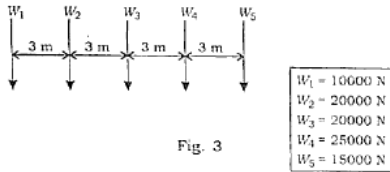

Fig. 3
5. The load system shown in Fig 3 crosses a beam simply supported over a span of 24 m. Using influence line, calculate maximum Bending Moment under 25000 N load.